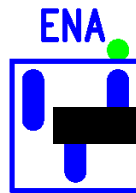

Figure 1: Shows the Enable jumper in the DISABLE position.
STEP 1: Set the “ENABLE” jumper J3 to the Disable Position, as shown in Figure 1.